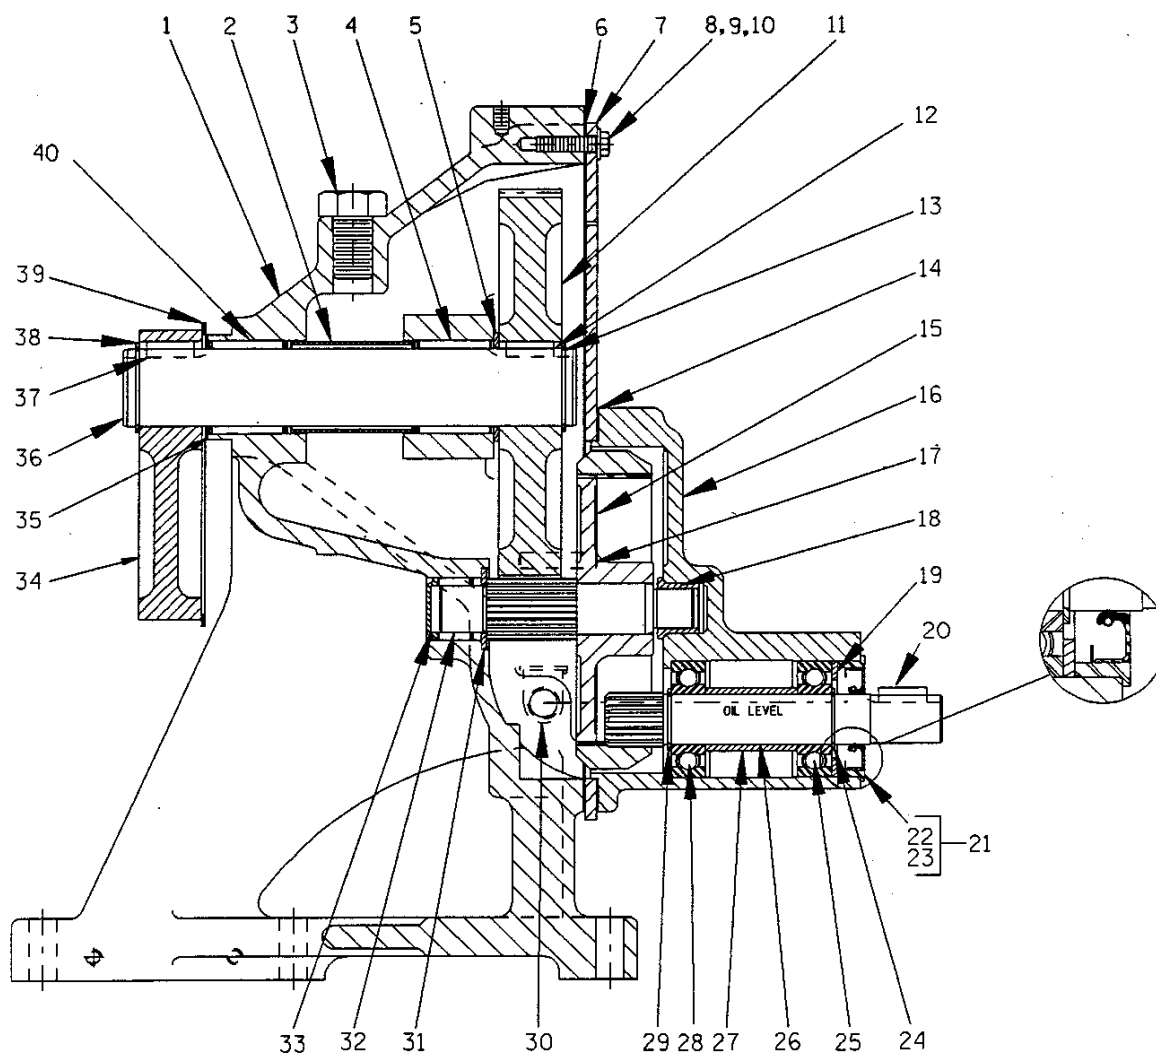

Figure 4. 44161-008 Gearbox Assembly
Removing the snap ring (6) and slide the plunger rod assembly (25) off the eccentric cam drive shaft (36, Figure 4).
Disengage the hardware (21 and 22) and remove the coupling guard (9). Loosen the hardware securing the coupling (11) and separate the halves. Remove the gearbox assembly, and slide the coupling half off the pinion drive shaft (26, Figure 4).
(Figure 4)